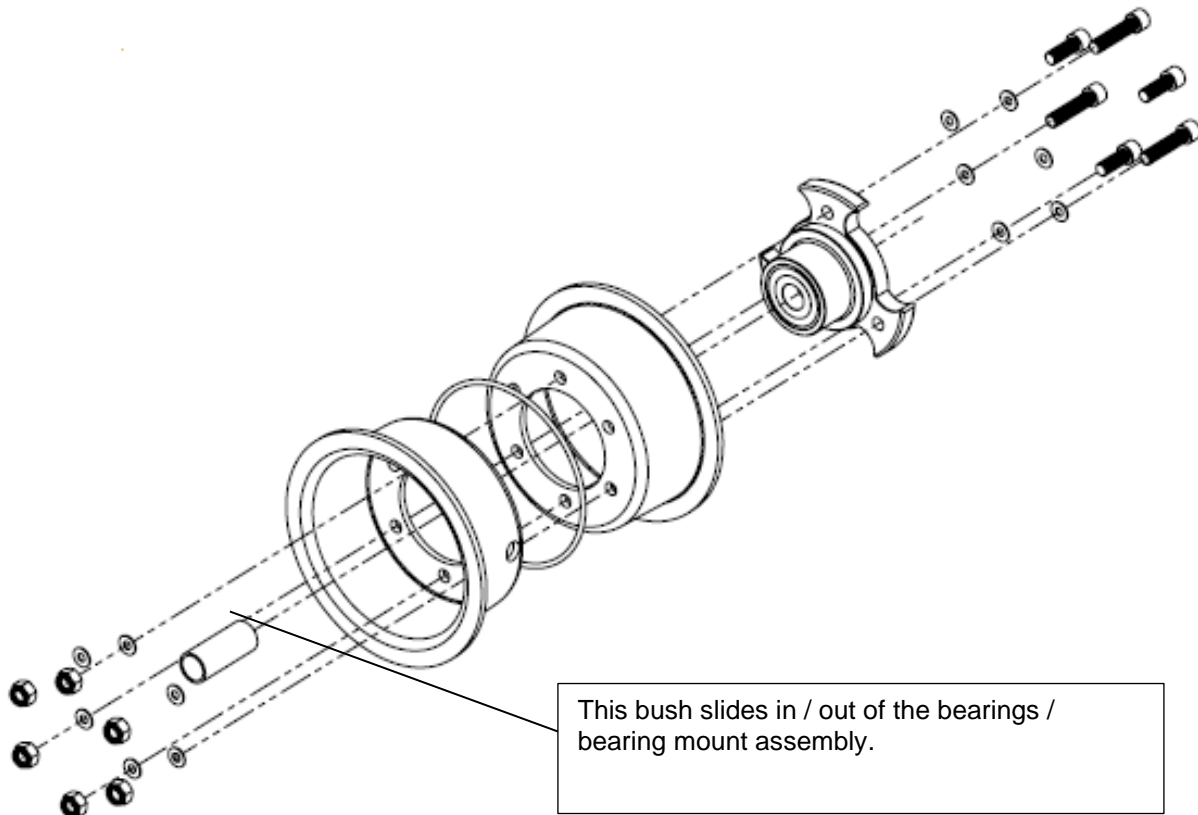

Figure 46: Front wheel hub assembly.
2. Push out the inner bush (refer to Figure 46).
3. Insert the bush (refer to Figure 46).